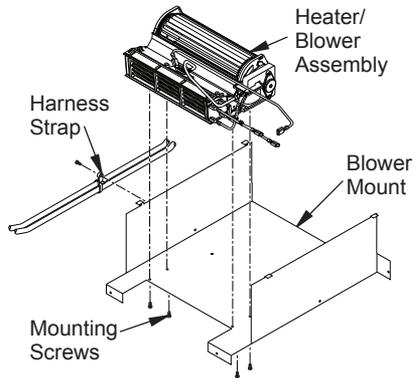

Figure 19 - Mounting Heater/Blower
8. Align blower assembly over hole pattern on blower mount and attach with 4 pan head screws provided (see Figures 19 and 20).